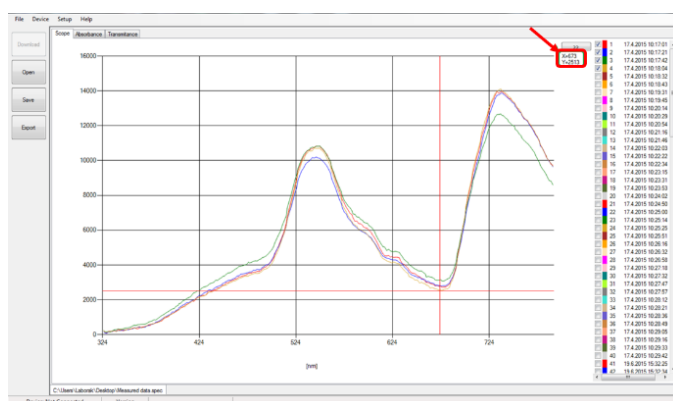

Fig. 19 Marker feature.
10. In the graph **marker** feature is available, which enables display of the numeric values for wavelength and light irradiance for the selected wavelength of the scan (Fig. 19). Use the mouse to select the given point. In top right corner of the graph (red rectangle) is displayed exact value for the selected point on the x-axis and y-axis.